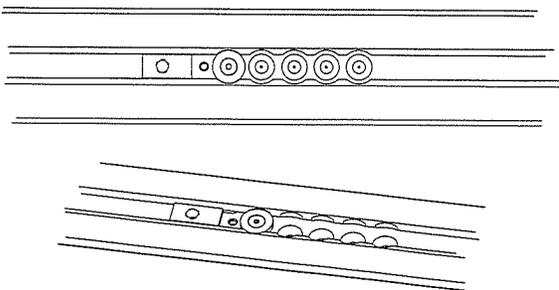
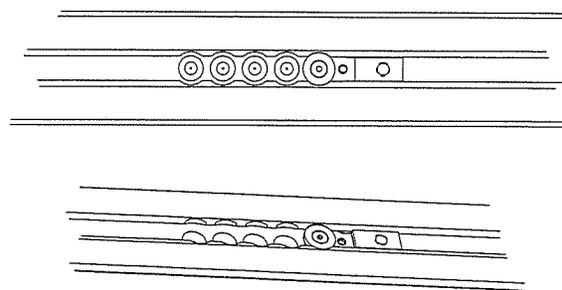

Figure 4: Most wheel clearance
Figure 5: Flipping the bracket
3. Locate the first floor plate attachment bracket (6390-101-108) (Figure 4 on page 17) location (near the foot end). This location provides the most wheel clearance.
- Flip the bracket (Figure 5 on page 17) to move the mounting location an additional 2 in. (5 cm) toward the head end.
- Figure 4 on page 17 shows the location for the most wheel clearance from the bumper. Figure 5 on page 17 shows the location for the least wheel clearance from the bumper and represents an 8 in. (20.3 cm) shift in from the first location. Select the location that provides the appropriate wheel clearance for your set up.